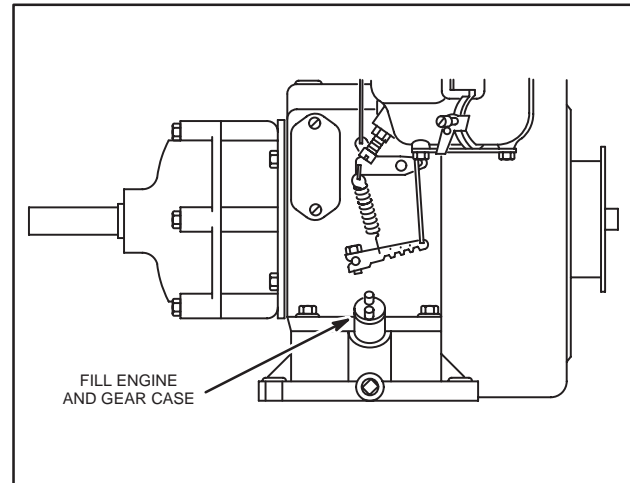

Fig. 152 – FILLING GEAR CASE
3. Recheck oil level and add oil as required to bring engine oil level up to full, Fig. 152. See Section 8, Lubrication, for oil recommendations.